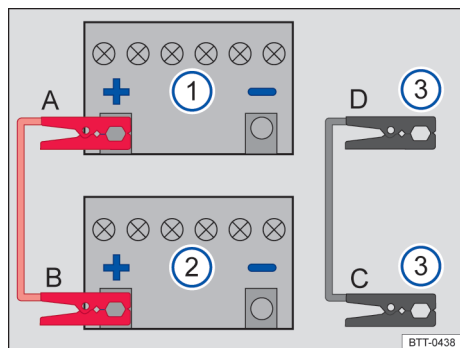

Fig. 128 Schematic diagram of how to connect the
Fig. 128 jump leads:
Only in the order A - B - C - D to connect the jumper lead. → Fig. 128
→ Fig. 128 ① with the discharged vehicle battery (+) → ⚠️.
- Connect *the red jump lead* to the positive terminal of the 12-volt vehicle battery → Fig. 128 ② providing assistance (+).
- Connect *black jump lead* → Fig. 128 ③ to a solid metal part that is securely bolted onto the cylinder block or to the cylinder block itself on the vehicle with the 12-volt vehicle battery providing assistance.
- Connect the other end of the *black jump lead* → Fig. 128 ③ to a solid metal part that is securely bolted onto the cylinder block or to the cylinder block itself on the vehicle with the 12-volt vehicle battery. → ⚠️.
- After jump starting, the jump leads should be removed only in the order **D -- C -- B -- A** → Fig. 128.